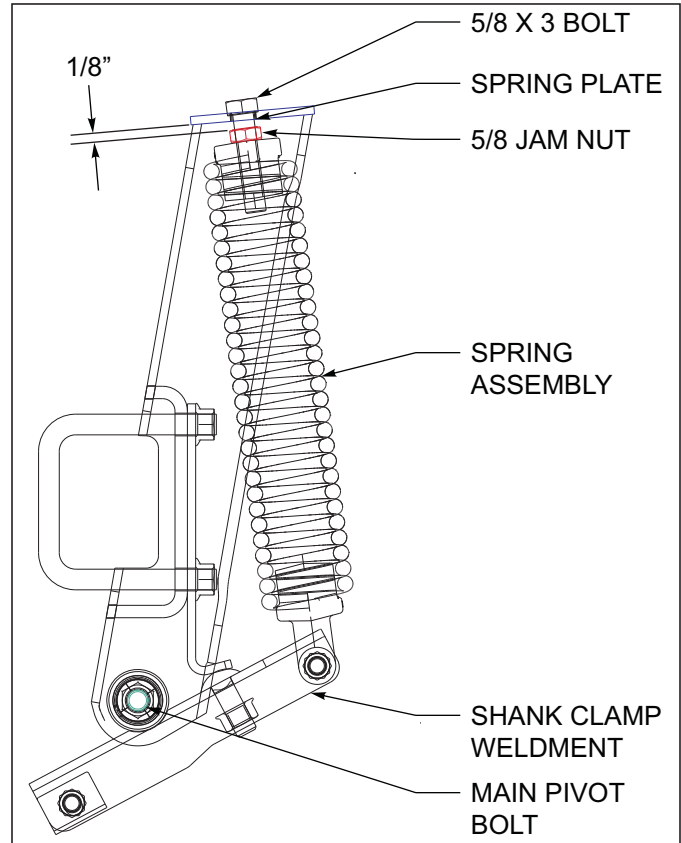
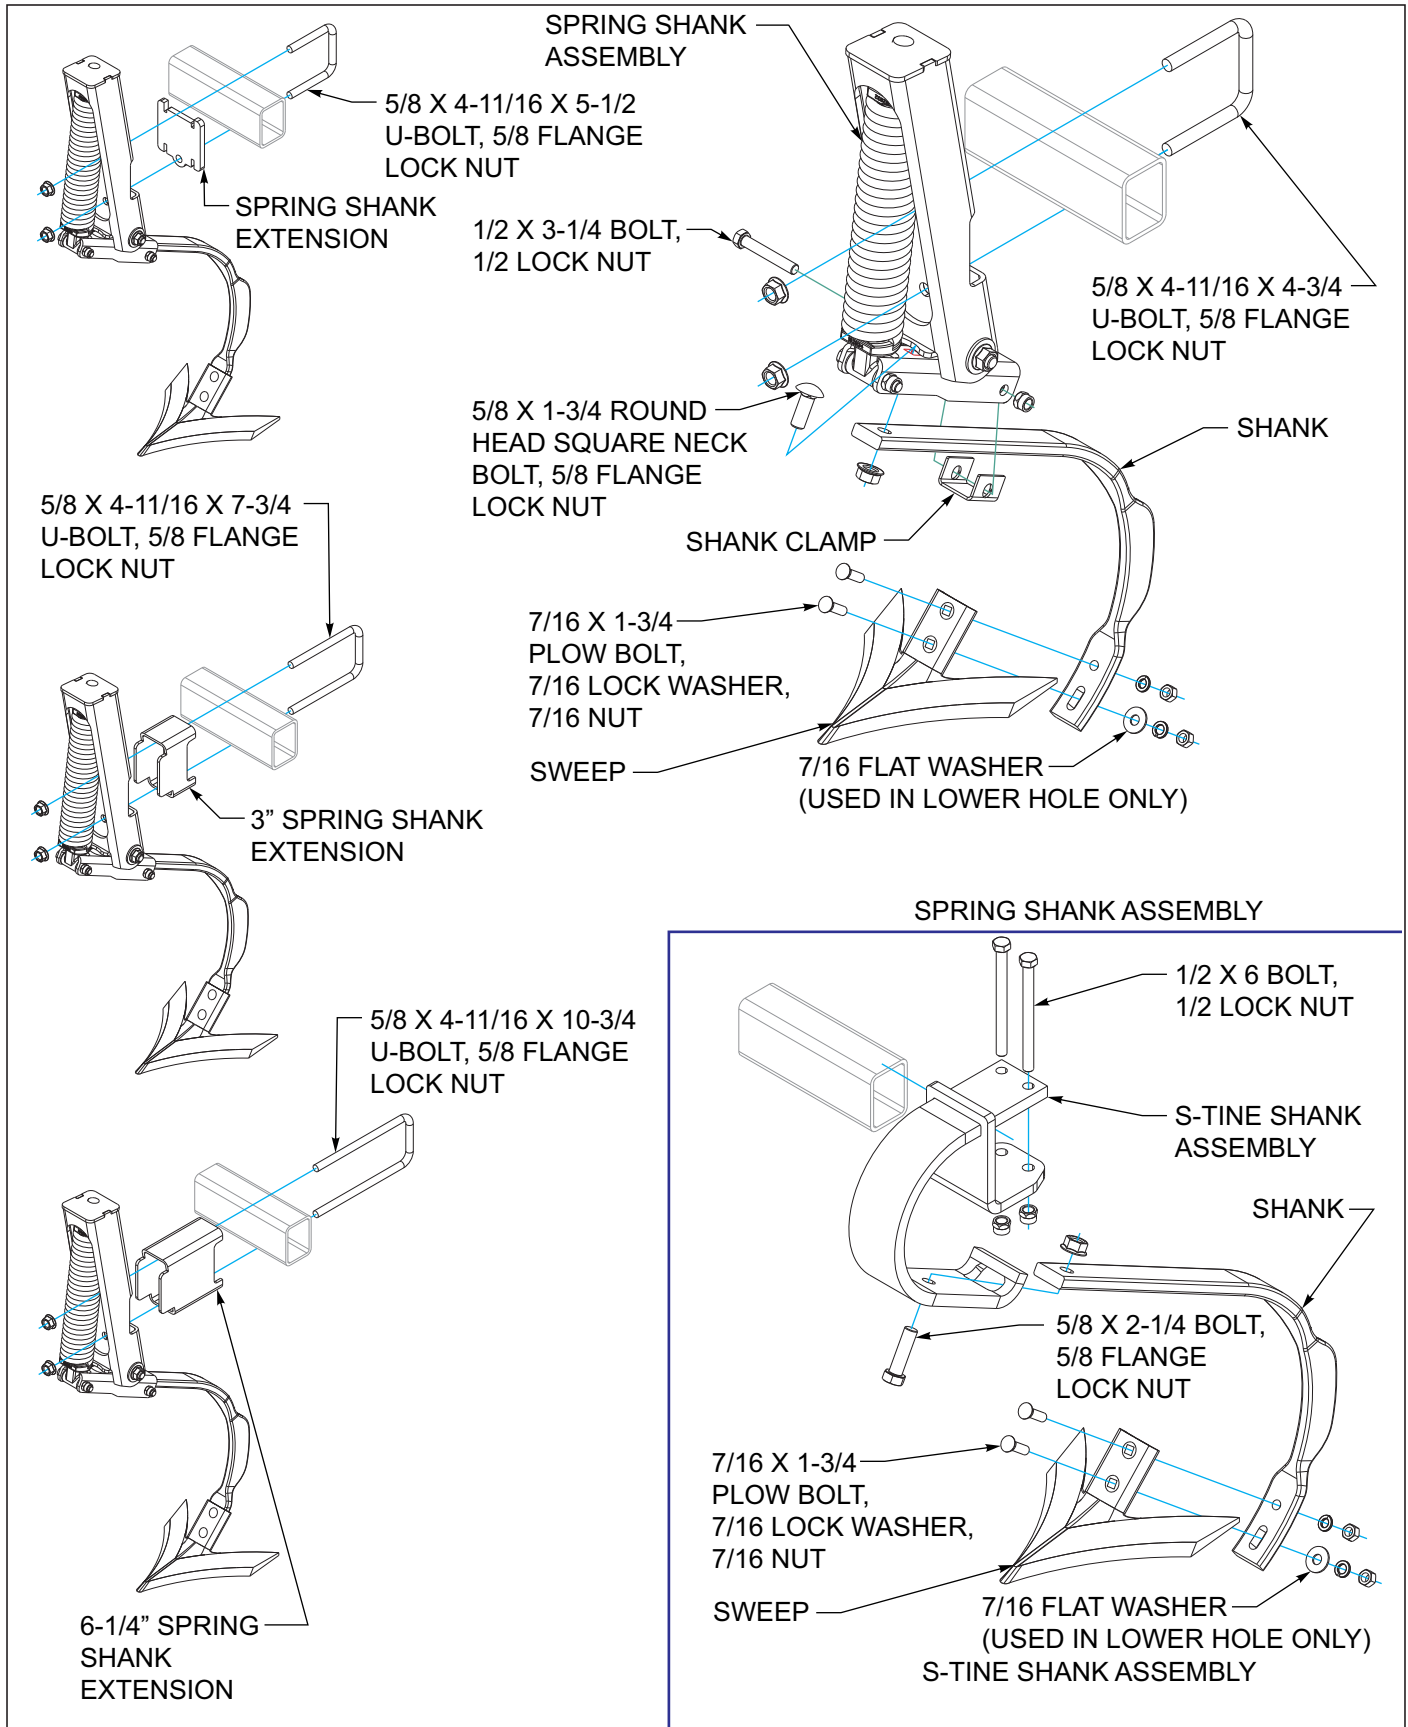

Figure 3-26: Spring Adjustment
Figure 3-27: Shank Installation
1. Install shanks in clamps See Figure 3-27.
Spring shank assemblies with frame extensions (front bar) are mounted reversed for narrower shipment. These shanks must be removed and turned forward for proper operation. See Figure 2-2 through 2-5 for proper placement. and See Figure 3-27 for proper u-bolt and shank extension. After shanks have been reversed, verify that springs have been set to the proper tension. Adjust the spring until there is 1/8" gap between the top of the mount and locking jam nut on top of the spring See Figure 3-26 Lock the jam nut against the top of the spring, not the top of the mount.